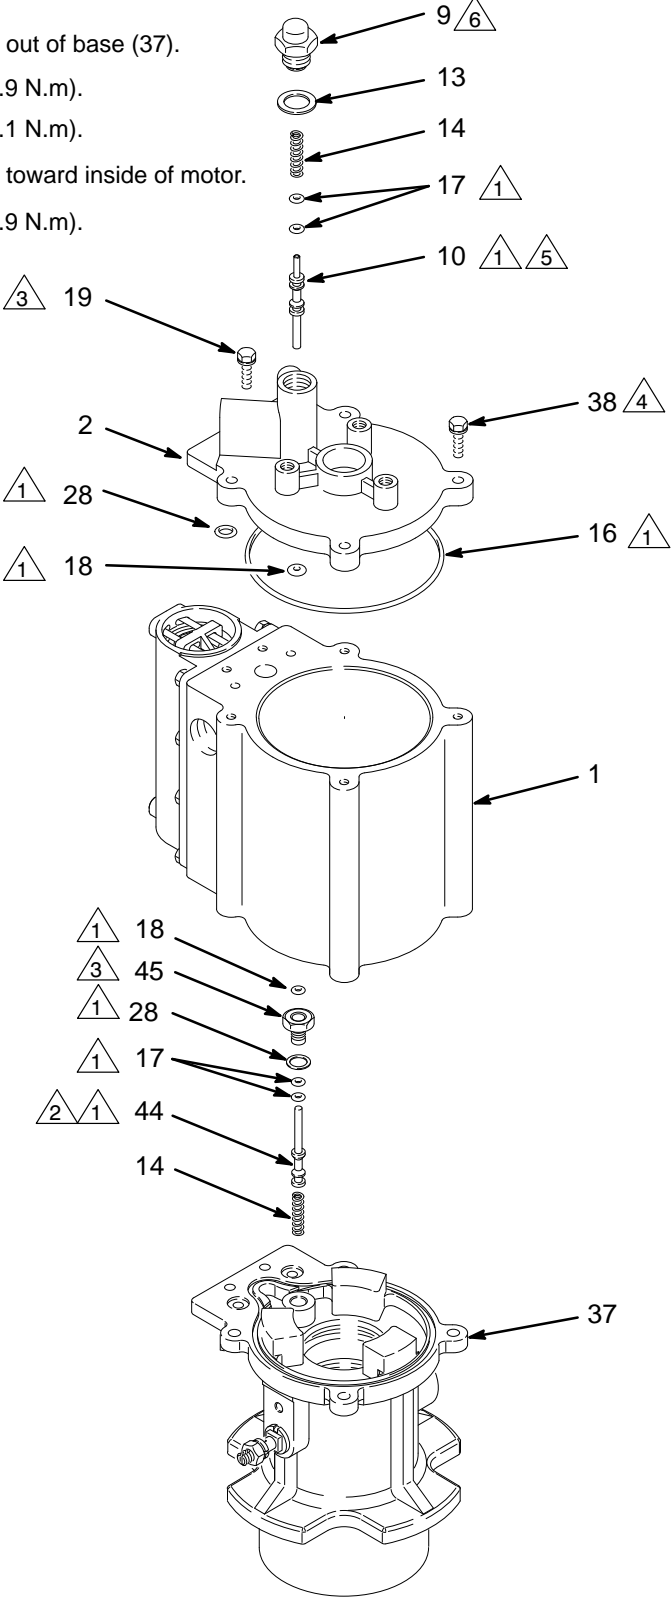

Fig. 7
1. Remove the upper actuator valve plug (9) from the top cap (2). Thread the sealing gasket (13) off the plug (9). See Fig. 7.
2. Pull the spring (14) and pin (10) out of the top cap (2). Remove the two o-rings (17) from the pin.
3. Remove the four screws (38) and two screws (19) holding the top cylinder cap (2) to the cylinder (1). Remove the large o-ring (16) and two small o-rings (28) from the cap. Remove the o-ring (18) from the inside of the top cap.
4. Remove the lower actuator valve plug (45) from the motor base (37). Remove the o-ring (28) from the plug (47). Remove the o-ring (18) from the plug. See Fig. 7.
5. Remove the actuator pin (44) and spring (14). Remove the two o-rings (17) from the pin.
1. Grease the o-ring (18), and install it in the lower actuator plug (45). Install the o-ring (28) onto the plug. See Fig. 7.
2. Install the spring (14) in the motor base (37). Install the two o-rings (17) on the lower actuator pin (44). Grease the pin and o-rings and install the pin in the base with the long end pointing out of the base.
3. Screw the plug (45) into the motor base (37). Torque to 14–17 in-lb (1.6–1.9 N.m).
4. Grease the two small o-rings (28) and the large o-ring (16). Install them in the recesses of the top cap (2). Grease the o-ring (18), and install it in the inside of the top cylinder cap (2). See Fig. 7.
5. Install the top cap (2) on the cylinder (1). Install the four screws (38), and torque to 35–45 in-lb (4.0–5.1 N.m). Install the two screws (19), and torque to 14–17 in-lb (1.6–1.9 N.m).
6. Install the two o-rings (17) on the pin (10). Grease the pin and o-rings, and insert the pin in the top cap (2). The long end must point toward the inside of the motor.
7. Thread the gasket (13) onto the plug (9). Install the spring (14) in the top cap (2). Screw the plug into the top cap and torque to 60–70 in-lb (6.8–7.9 N.m).